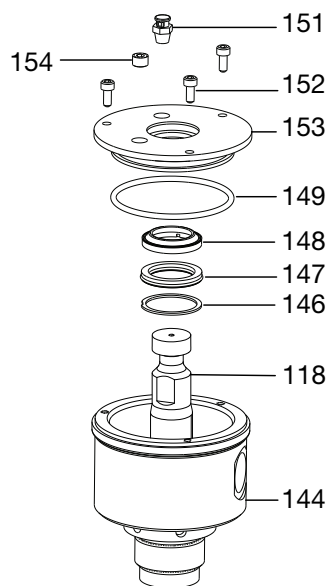

FIG. 43
36. Install new o-ring (149), wet cup wiper (148), seal (147), and snap ring (146) into wet cup cover (153). See FIG. 43.
**NOTE:** The snap ring (146) is applicable only to 100cc displacement pumps.
37. Carefully slide wet cup cover (153) over displacement rod (118). Line up holes in cover and wet cup. Insert screws (152). Use a hex head screwdriver to tighten screws. See FIG. 43.
**NOTE:** Use caution when sliding wet cup cover (153) over displacement rod (118) to avoid damaging seals (147/148).